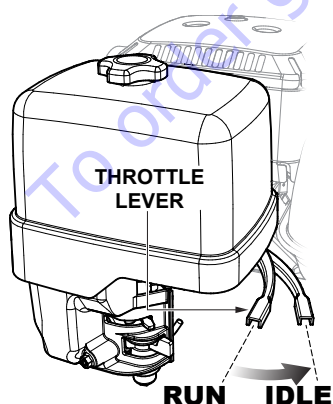

Figure 13. Throttle Lever (Idle Position)
2. Move the throttle lever (Figure 13) to the *idle* position.